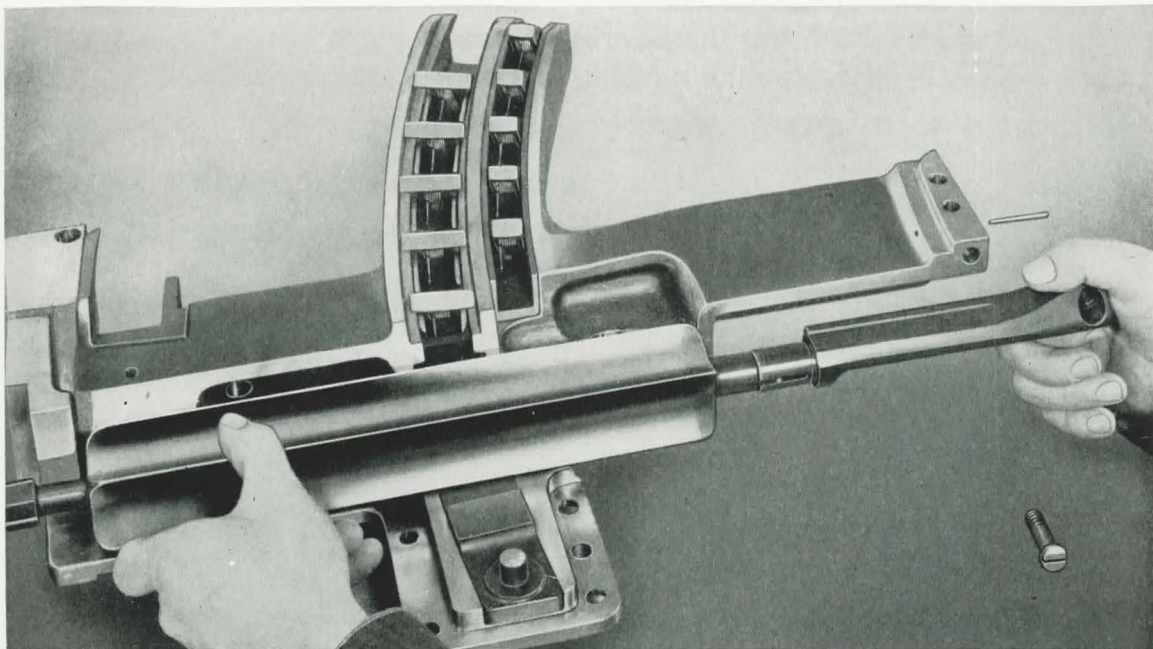

Figure 62
- (1) Tap out the taper pins.
- (2) Remove the star wheel shaft retaining screws, the shafts, and the star wheels, **Figure 62**.